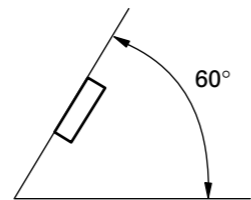

Fig. 1
- If installation angle exceeds 60° from horizontal, the unit might not give its optimum performance. (Fig. 1)